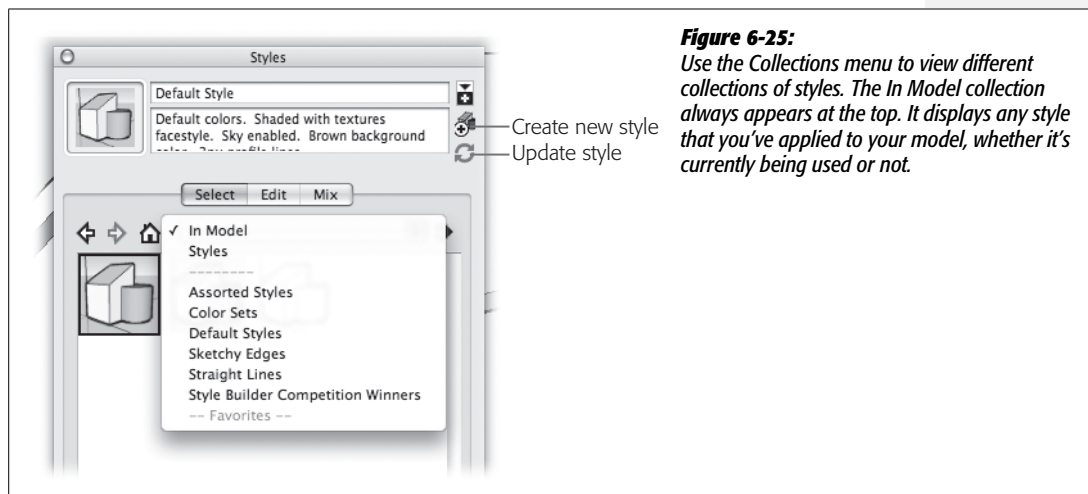

Figure 6-25:
3. From the drop-down menu, choose the Assorted Styles collection (Figure 6-25).